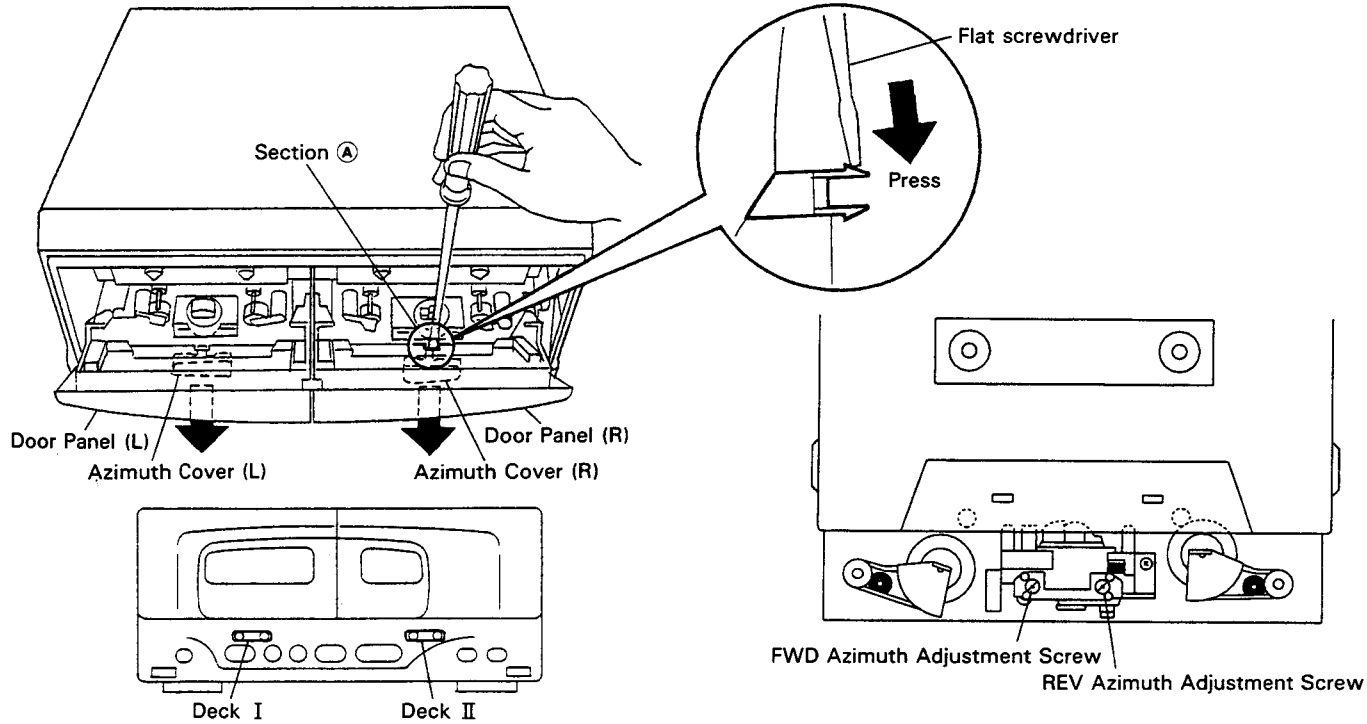
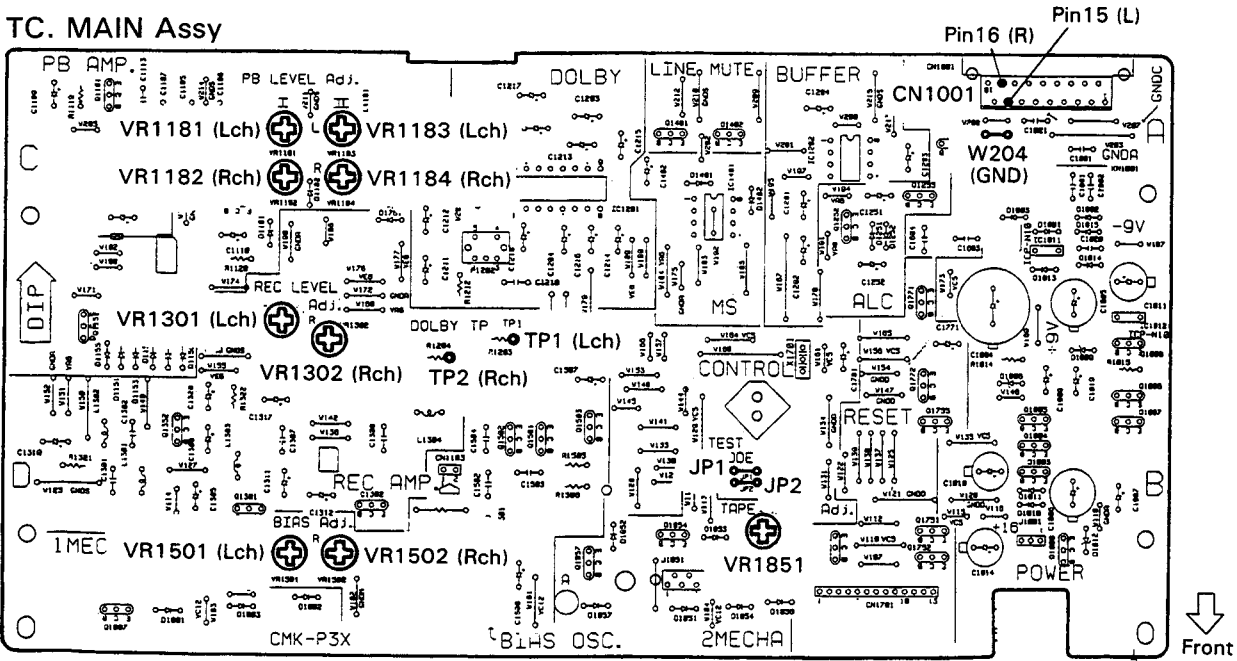

Fig. 2-3 Head Azimuth Adjustment
Fig. 2-4 Adjustment and Measurement Points
● Adjustment points and test points are shown in Fig. 2-3 and Fig. 2-4.
Switch on the power supply while short-circuit the jumper wires JP1 and JP2 in the TC. MAIN assy (refer to Fig. 2-4), and afterwards disconnect the jumper wires.
- The ground at the time of adjustment shall be W204 (refer to Fig. 2-4).